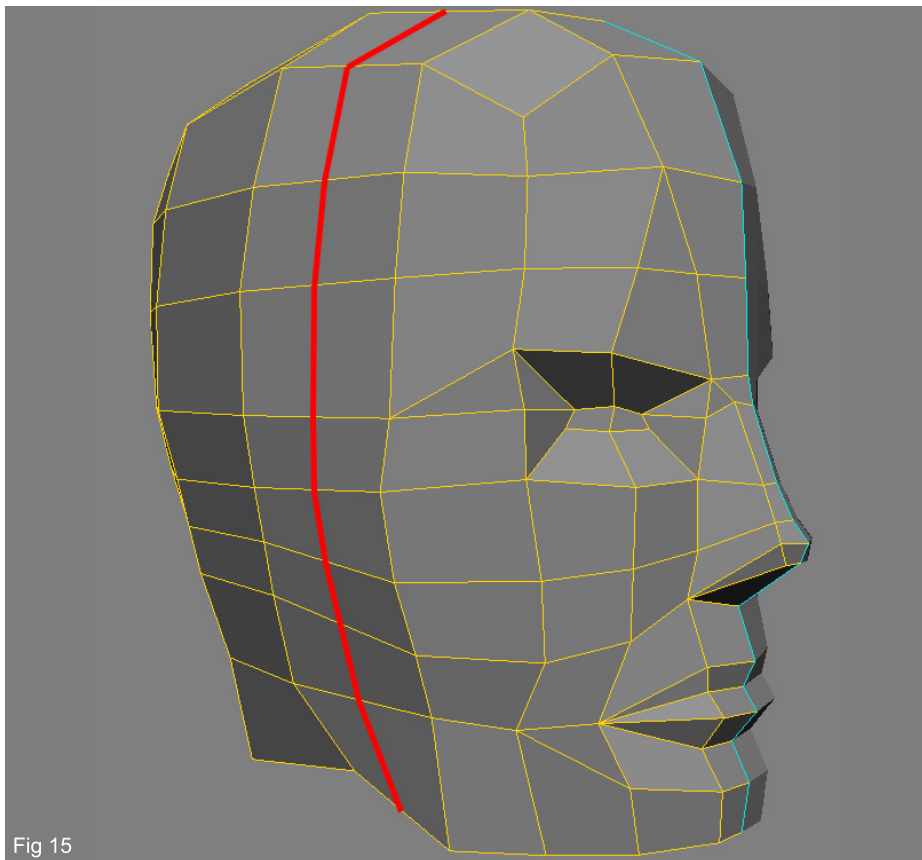

Fig 15
15. Now create a new cut (marked in red in Fig15) Select one edge of the edgering, and use the Shift + D shortcut to Subdivide the whole ring (activate the Parallel Edges option in the Subdivide Edge property page).
16. Add a new cut to improve the jaw-line, like shown in Fig15 (new edges marked in red). Also, notice that after this new cut we can delete the edge marked in green, this keeping a quad poly instead of a tri. Select the diagonal edge (green edge in Fig15) and use the Dissolve Components tool to delete it.